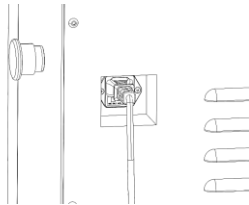

FIG.7
4. Install the supply cord to the device as shown in FIG. 7